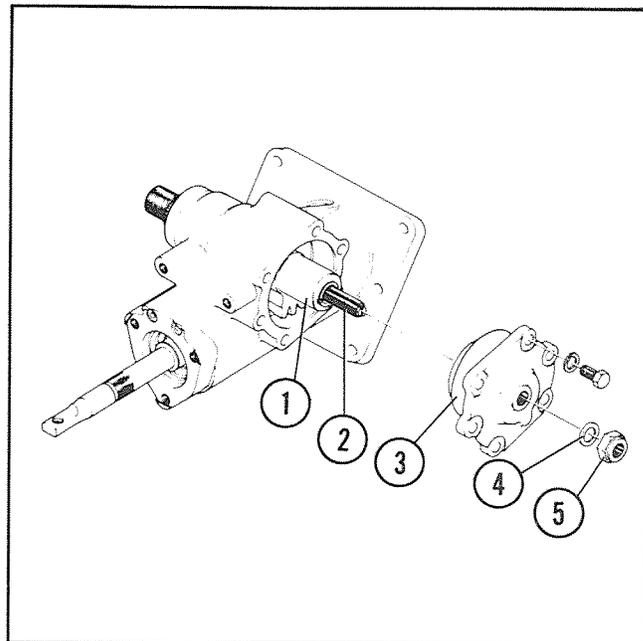

Figure 34
8. Remove the lock nut (5), and gasket (4), Figure 34.
9. Remove the side cover (3), by turning the adjusting screw (2), Figure 34 clockwise. (On the series 1700 tractor remove the seal nut.)